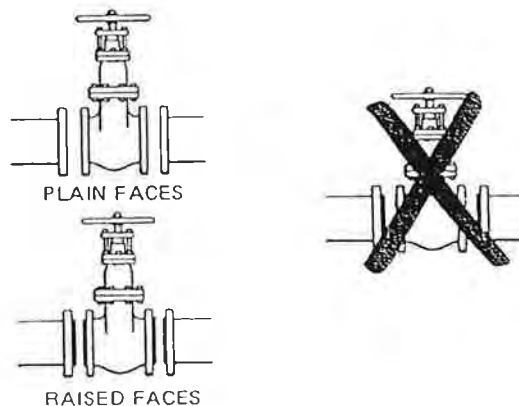

Fig. 6-11. Flanged joints require matching faces.
6.30 Some flanges have raised faces and others have plain faces. Like faces must be matched. See Fig. 6-11. A flange with a raised face should never be joined to one with a plain face. You will find that steel flanges have raised faces, and iron or bronze flanges usually have plain or flat faces. When 125-pound iron or bronze flanges are joined to steel flanges, the raised face on the steel flange should be machined off. A full-faced gasket is preferred. Flanged fittings are relatively heavy and must be supported. They also take up considerable space.